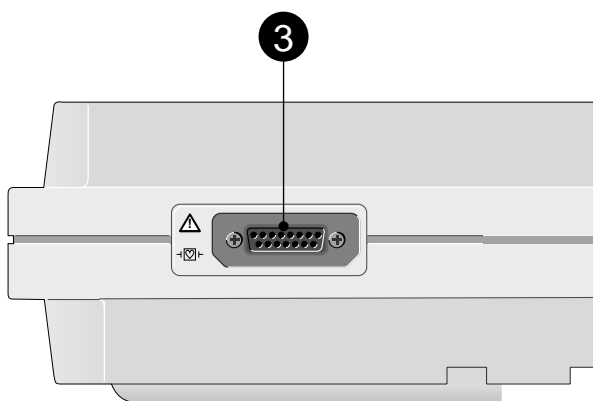

Figure 4-1. ECG signal input
- Connect the patient cable to connector 3 (Figure 4-1).